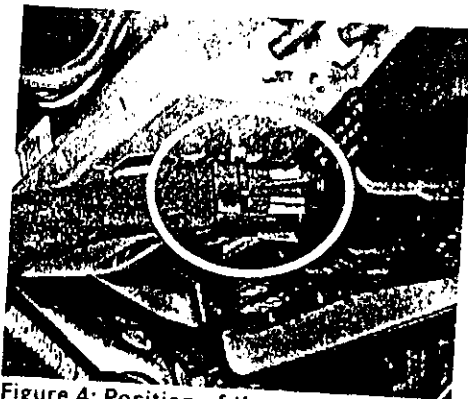

Figure 4: Position of the cable tie
6. Remove cable tie at transition of SBC connector housing to wiring harness (see Figure 4).